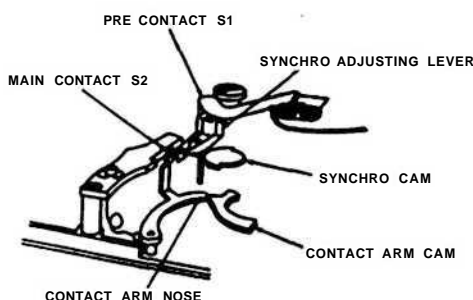

Figure 4-13. Flash Bulb Synchronizing Adjustments.
a. *Checking and adjusting Flash Bulb Circuit* (fig. 4-13). Set the voltage selector switch of test instrument 42-531-Z1W13 to 500-volts. Connect the camera flash lamp socket to the test instrument with connecting cord 42-253.04.
- (1) *Checking insulation.*
- (3) *Checking contact closing* (fig. 4-13). Set the selector switch to "L", wind the camera shutter, and set the shutter speed dial to "B". Depress the shutter release. The indicator lamp must light. Repeat the operation for each of the shutter speeds, noting that the lamp lights each time the shutter is released. If it does not, check the contact points of switches S-1 and S-2, and correct the fault.
b. Checking and Adjusting Flash Bulb Synchronization (fig. 4-13, 4-14). Connect the camera's flash lamp socket to test instrument 42-253.01-Z1W109 with connecting cord 42-253.04. Remove the camera hinged back and insert tolerance pattern 42-253.01-Z1A96 in the film aperture. Position the camera lens mounting flange over the test instrument opening.
- (1) Depress button (4) on the test instrument.
- (2) Wind the shutter, and set the shutter speed dial to 1/1000-second.
- (a) Bend the main contact (S-2). fig. 4-13 with tool 42-253.01 -U443W5.
- (b) Repeat the test in (3) above, and readjust the main contact until the shutter slit coincides with the 1/1000-second pattern on the plate.
- (4) Depress button (3) on the test instrument.
- (5) Wind the shutter, and set the shutter speed dial to 1/60-second.
- (a) Bend the contact arm nose (fig. 4-13) with tool 42-253.01-U443W6. Bending the nose toward the cam increases the delay of contact closing. Bending the nose away from the cam decreases the delay.
- (7) After making a synchronizing adjustment, recheck and adjust alternately between 1/1000-second and 1/60-second until both settings are correct.